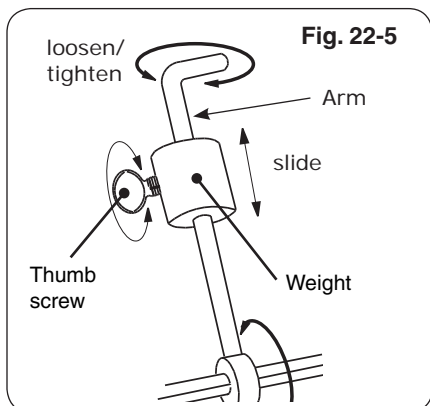

Fig. 22-5
9. Slide the counterbalance weight up or down the arm until the rod rotates most evenly then tighten thumb screw (Fig. 22-5 and Fig. 22-6).